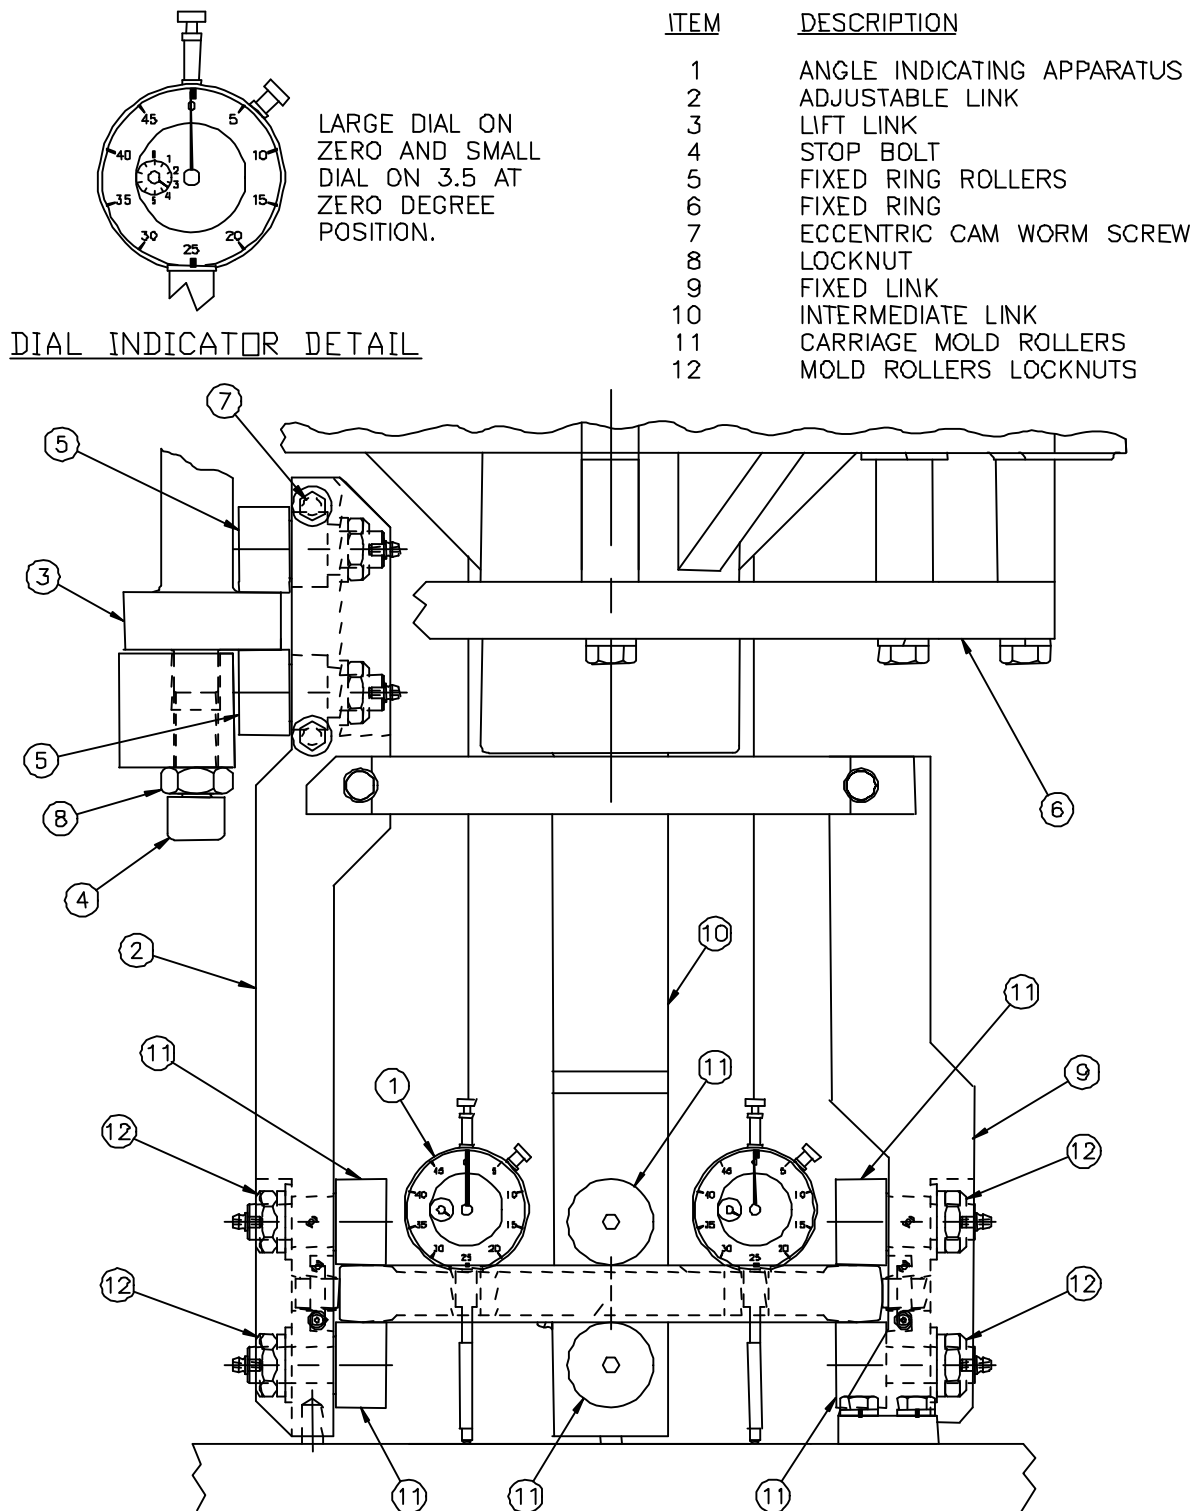

FIGURE 3.4: CUTAWAY VIEW OF ANGLE INDICATING APPARATUS IN MOLD CARRIAGE
1. The indicators must be properly set into the angle indicating apparatus. Check that the extensions on the dial indicators are tight. Proper placement of the indicators is required to use the angle indicating apparatus for measuring the angle of gyration. Place the angle indicating apparatus into the mold carriage roller sets (photo A). Place the angle indicating apparatus so that the engraved arrow (Photo A, item 1) is at the 3 o'clock position as viewed from the top of the machine. Set the bezel (large dial, Photo A, item 2) on each indicator to zero. The small dial (Photo A, item 3) on each indicator should be at 3.5 (see fig. 3.4, Chapter III - page 19). Reference section 7, Chapter III - page 25, figures 3.8 and 3.9 for instructions on reading the dial indicators.